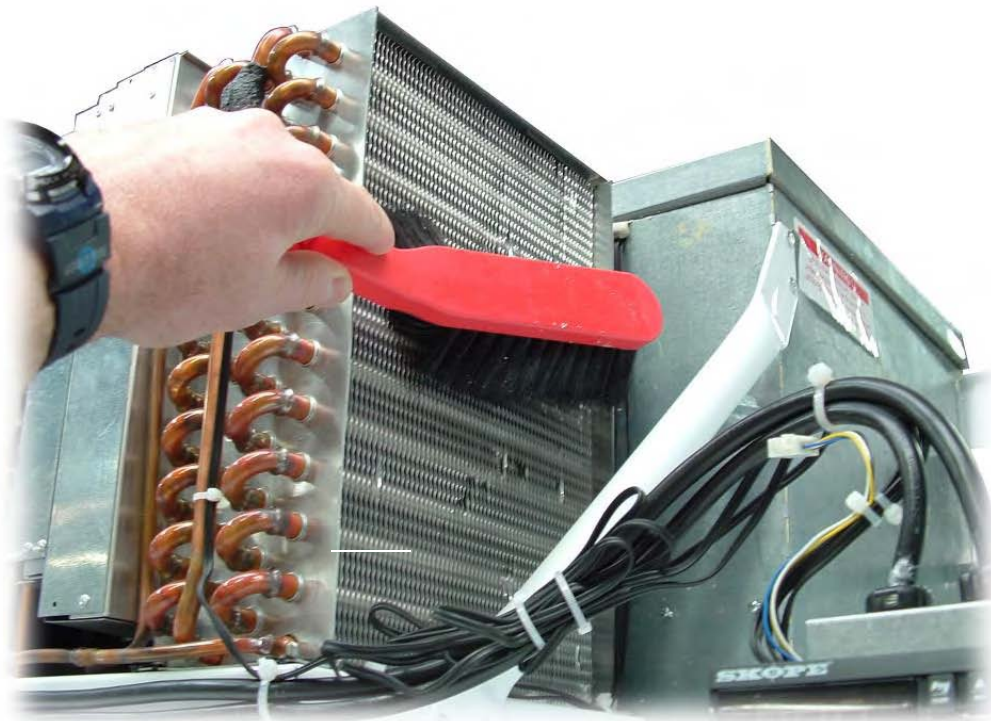

Figure 5: Cleaning the Condenser Coil
To ensure trouble free performance, the condenser coils should be brushed clean once a month (see Figure 5) and blown clean by qualified service personnel every six months. If the electronic controller display flashes '**cht**' the condenser coil immediately needs cleaning.
3. The condenser coils are now accessible for cleaning (see Figure 5).